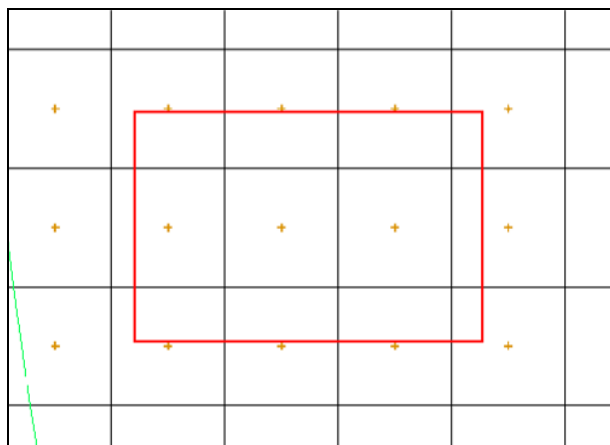

Figure 2. Arcs to be created on boundary of local model.
5. Create one arc to form a rectangle on top of (or close to) the red rectangle in Figure 2. If you don't see the red rectangle, you need to toggle on *Annotation Data* in *Project Explorer*.